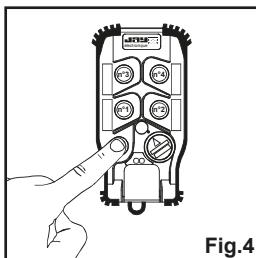

Fig.4
- 6- Validate the selected mode by pressing the "On/Horn" button (fig.4).